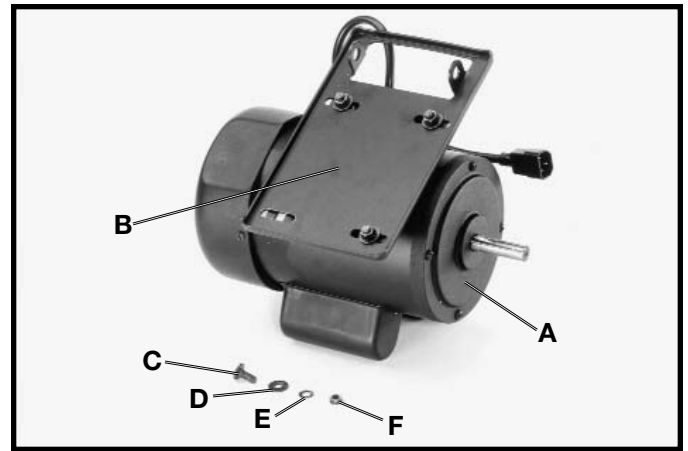

Fig. 16
Assemble motor (A) to motor mounting plate (B) as shown in Fig. 16. Align the four mounting holes in the motor with the four holes in the mounting plate. Insert a 5/16-18x3/4" carriage bolt (C), through the hole in motor and then through the hole in the motor mounting plate, place a 5/16" flat washer (D) onto the carriage head bolt, place a 5/16" external tooth washer (E) onto the carriage head bolt, thread a 5/16-18 hex nut (F) onto the carriage head bolt. Repeat this process for the three remaining holes in the motor and the motor mounting plate.